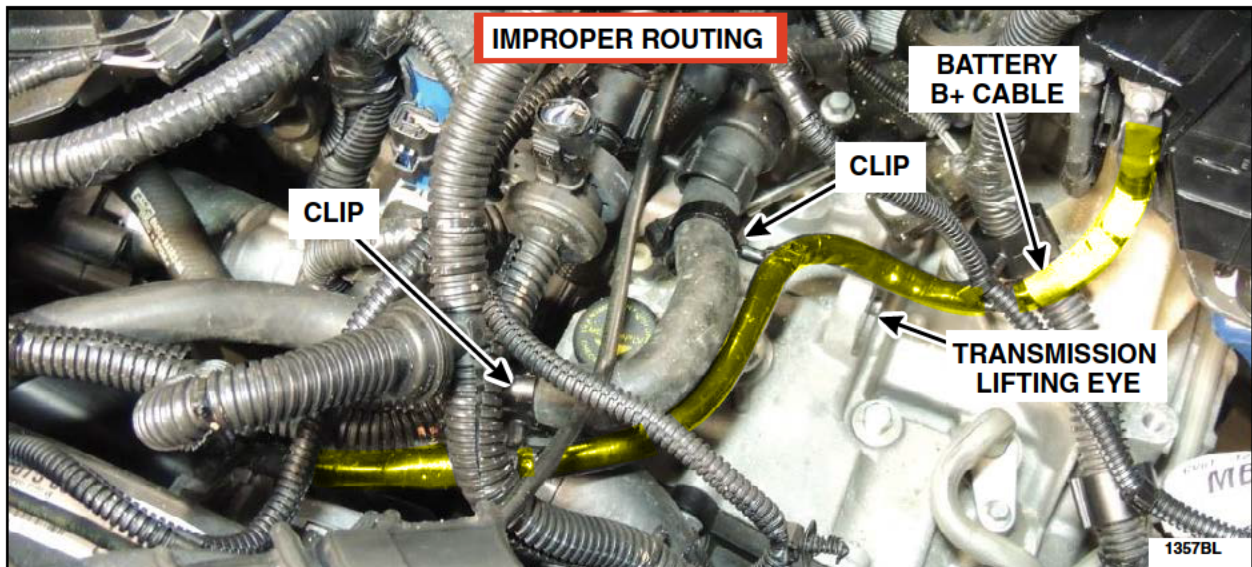

FIGURE K2
- An **improperly routed** cable can be identified by the cable being routed forward of the engine near the radiator, and is not attached to the main engine wiring harness with a tie-strap. See Figure K2.